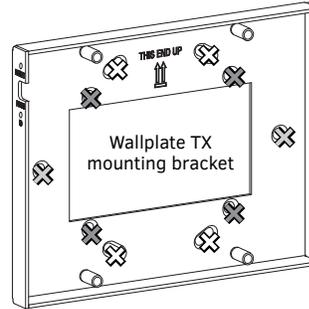

FIG. 4 WALLPLATE TX MOUNTING BRACKET
**Wallplate TX** – The holes in the Wallplate TX mounting bracket are designed to accommodate a variety of gang boxes using 2 or 4 screws (standard and metric are provided). Be sure to orient mounting bracket as shown in FIG. 4.